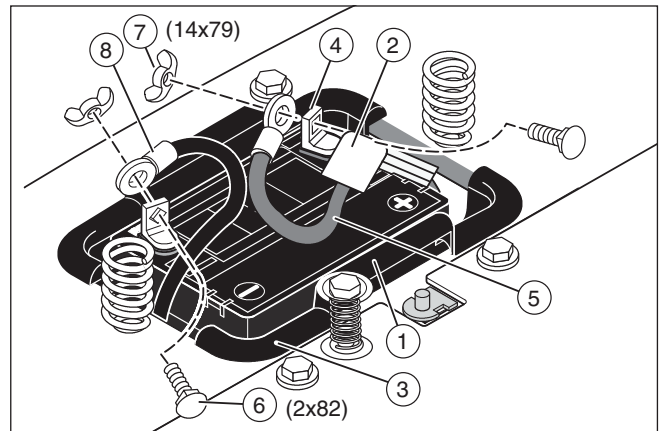

Figure 12
1. Check the top of the battery (1) for the location of the battery date (see **Figure 12**).
1. Remove the battery (1) and battery tray (3) (see **Figure 12**).
4. Install the battery (1) and battery tray (3). Make sure the positive (+) terminal (4) is on the left side.
1. Remove the protective caps from the battery terminals (see **Figure 12**).
2. Slide the terminal cover (2) onto the red cable (5). Fasten the red cable to the positive (+) terminal (4) with the fasteners (6) and (7).
3. Fasten the black cable (8) to the negative (-) terminal with the fasteners (6) and (7).